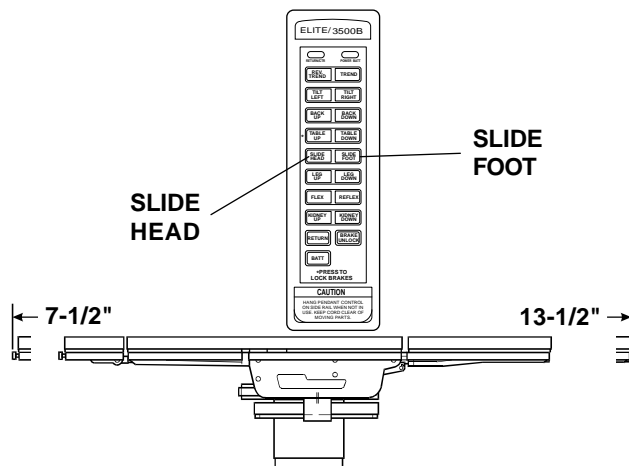

Figure 3-11. Top Slide
f. Top Slide. To move the table top toward the head end, press the SLIDE HEAD button. From center position, the top will slide up to 7-1/2". See figure 3-11.